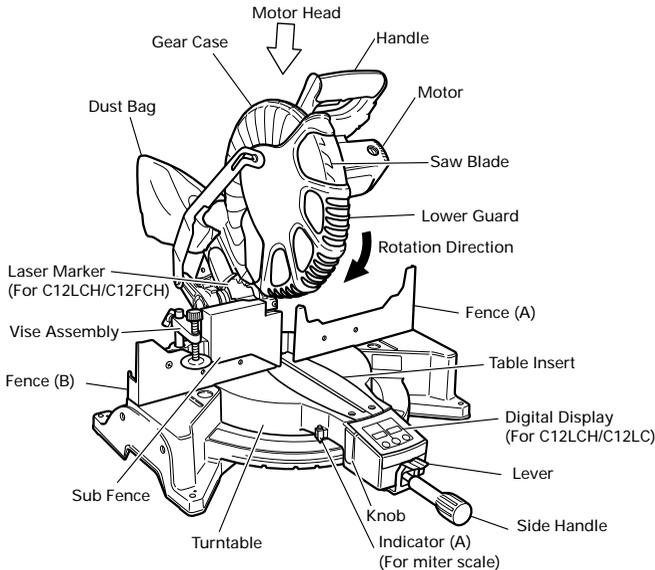
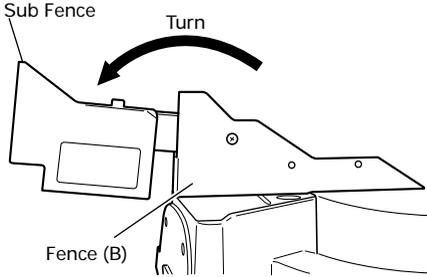

Fig. 2
Fig. 7
5. Attach the dust bag to the main unit (Fig. 2)
This power tool is equipped with a sub fence (See Fig. 2). In the case of direct angle cutting and angle cutting, use the sub fence. Then you can realize stable cutting of the material with a wide back face. In the case of left bevel cutting, raise the sub fence up as illustrated in Fig. 7 and then turn it counterclockwise.